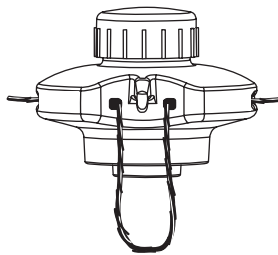

Fig. 17
2. Push the ends through until they stick out of the sides of the head (Fig. 17).